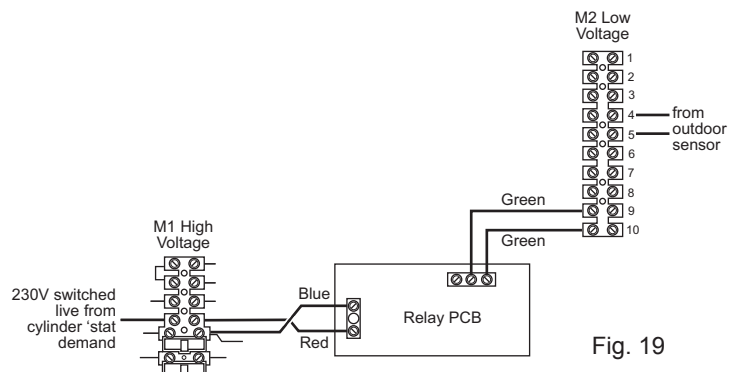

Fig. 19
9. Connect the IFOS wiring to positions 4 & 5 on terminal strip M2 (Fig. 19).